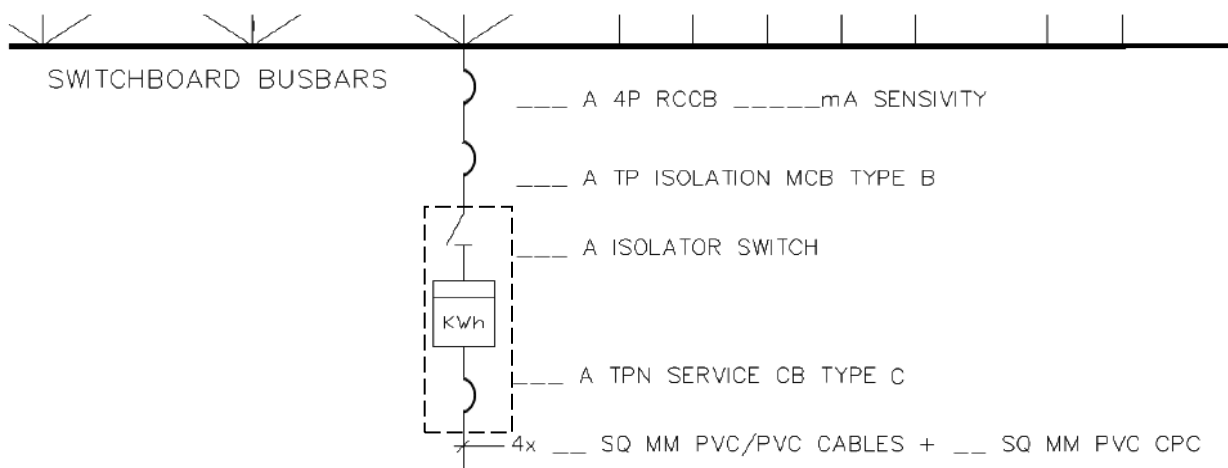

Figure 11-5 Incoming accessories when $I_T < 100A$
- ❖ **Figure 11-5** – for the incoming current less than 100 A, i.e. $I_T < 100 \text{ A}$
For incoming set-up as per Figure 11-5;